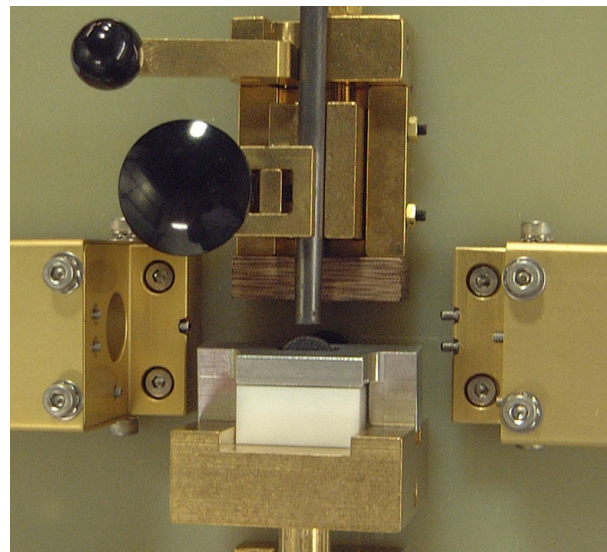

Figure 1-6, Sample Stand with Reusable Sample Holder and Cover in Place
The sample is now ready for analysis, Figure 1-6. Close the door of the sample stand and press the START button located on the operator's control panel or function key 9 (F9) on the keyboard, or the burn icon.